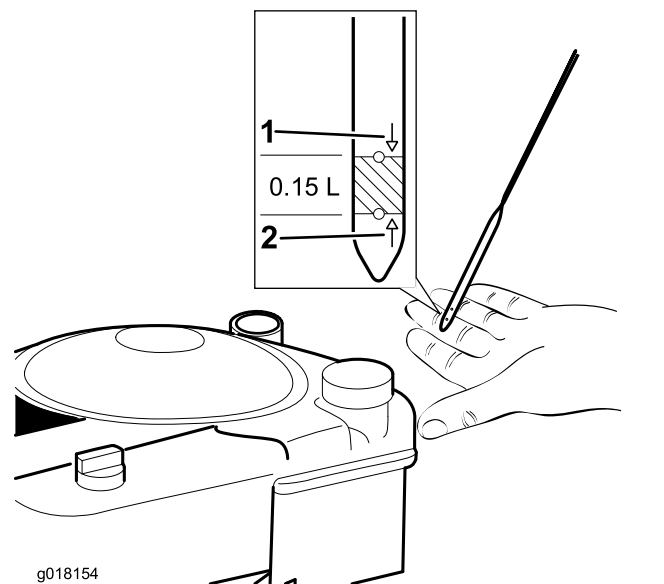

Figure 17
- Remove the dipstick and wipe it with a clean cloth (Figure 17).
- Slowly** pour oil into the oil fill tube, wait 3 minutes, and check the engine-oil level on the dipstick by wiping the dipstick clean and then inserting it into the tube (Figure 17).
5. Fill the engine with oil until the dipstick indicates that the engine-oil level is correct as shown in Figure 17. If you overfill the engine with oil, remove the excess oil.